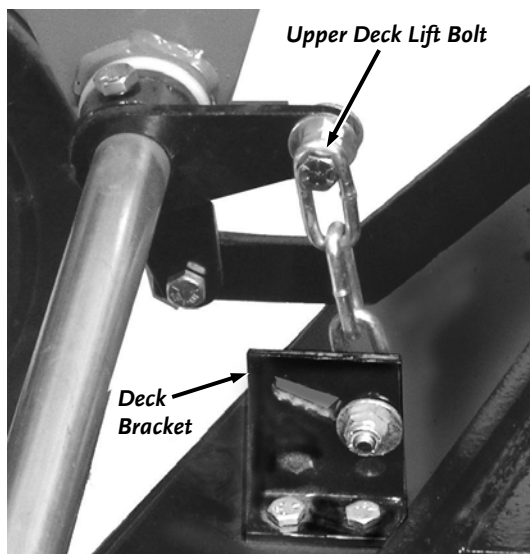

Figure 25
9. Using 1/2" Wrenches, remove the Upper Bolts (**Figure 25**) from the four Deck Lift Levers connecting the Chain to the Deck Brackets.